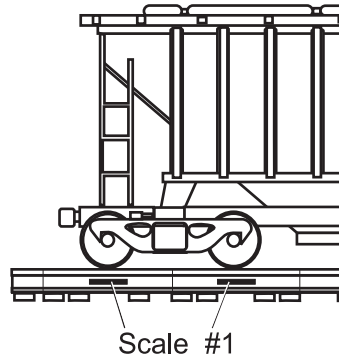

Figure 1.8 Second truck in position over scale
3. Position the second end of the same rail car on the scale platform as shown in Figure 1.8.